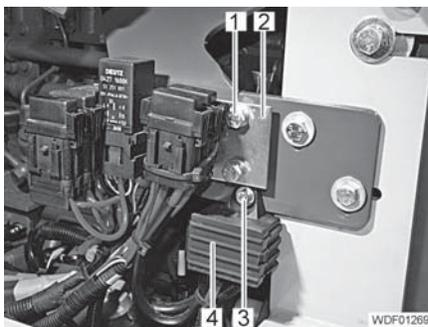

Fig. 10 Relay, fuses and junction box
- Unscrew the 2 screws (Fig. 10,1).
- Carefully remove the plate to the right with fuses and relay (Fig. 10,2).
- Unscrew the screw (Fig. 10,3).
- Carefully remove the junction box (Fig. 10,4) to the right.